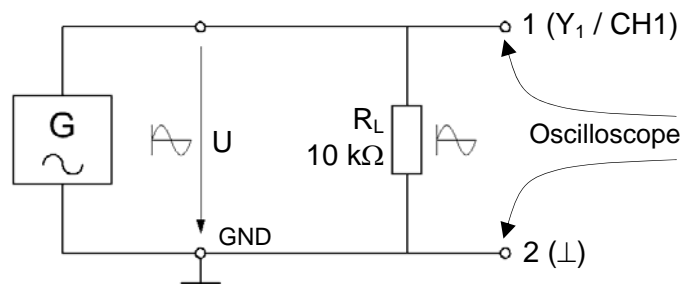

Fig. 10.2.2.1: Sine-wave generator with load resistor, R_L
- Assemble the circuit in Fig. 10.2.2.1 on the Electronic Circuits Board (notes on assembly will be found in section 10.2.3).